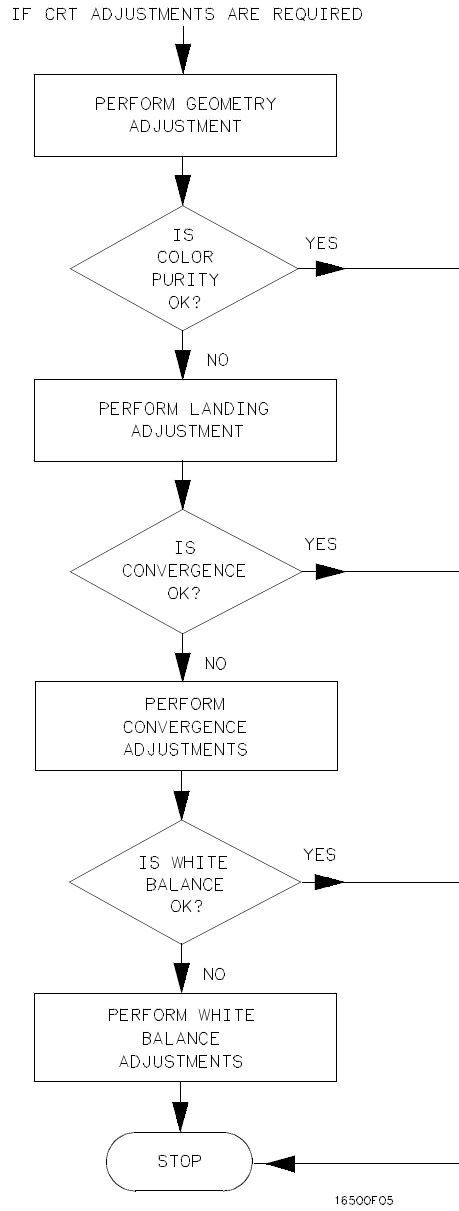

Figure 4-11. CRT Module Adjustment Flow Diagram
*The following adjustments are broken down into adjustment groups. The sequence of the adjustment groups must be followed due to the interaction and dependency of one adjustment to another. The adjustment group sequence is shown in the adjustment flow diagram in figure 4-11. There will be cases where not all the adjustment groups will be used. For example, if the Geometry Adjustment Group corrects the problem, this will be the only group used.*